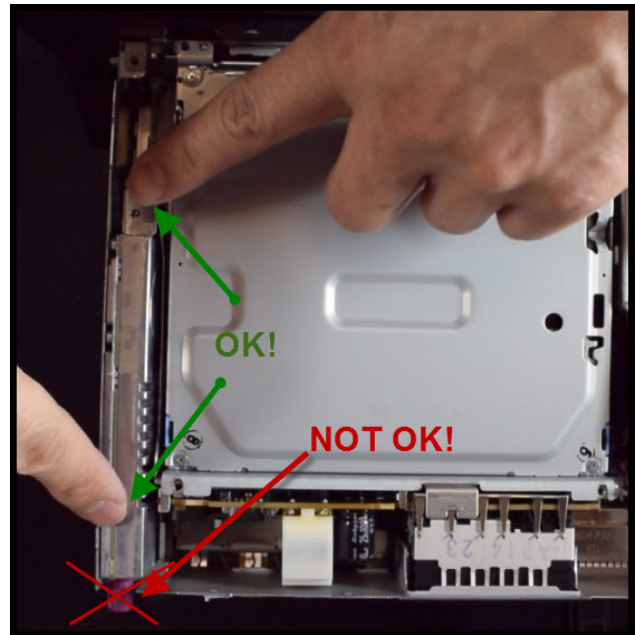

Figure 13. Do not press down using the purple FAKRA connector.
13. Place the new UMTS telephone module into the socket, making sure it is level before snapping it into place. Use both ends of the telephone module when pressing it into place. Do not press down using the purple FAKRA connector (Figure 13).